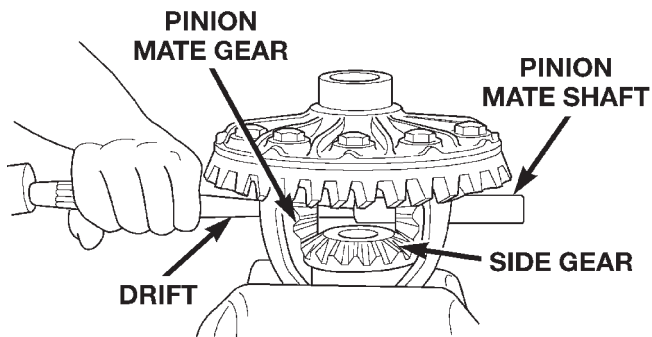

Fig. 57 Mate Shaft Removal
- (5) Remove the pinion gear mate shaft. If necessary, use a drift and hammer (Fig. 57).